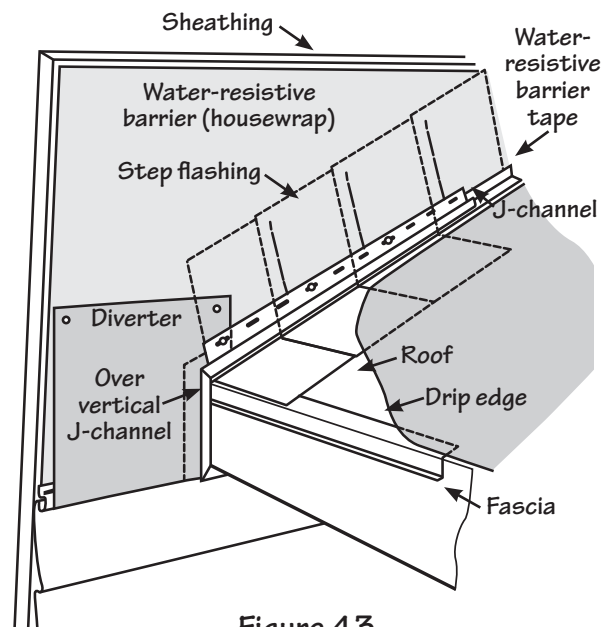

Figure 43.
- Cut a diverter from aluminum trim sheet, making sure it sits on the nail hem of the last full course (Fig. 43). Make sure the diverter is placed inside the receiving pocket of the vertical J-channel and is tucked behind the nail hem of the J-channel following the roofline for best drainage.